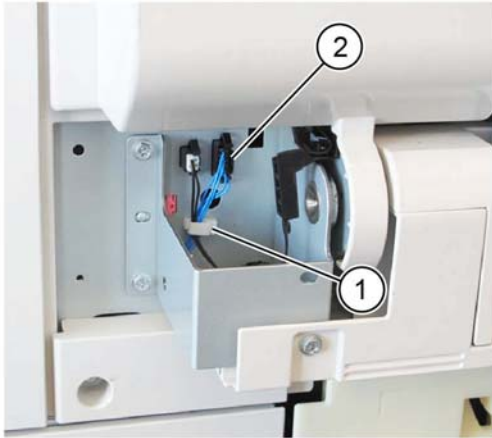

Figure 2 Harness release
2. Disconnect the connector, Figure 2:
- a. Release the harness from the clamp (1).
- b. Disconnect the connector (2).